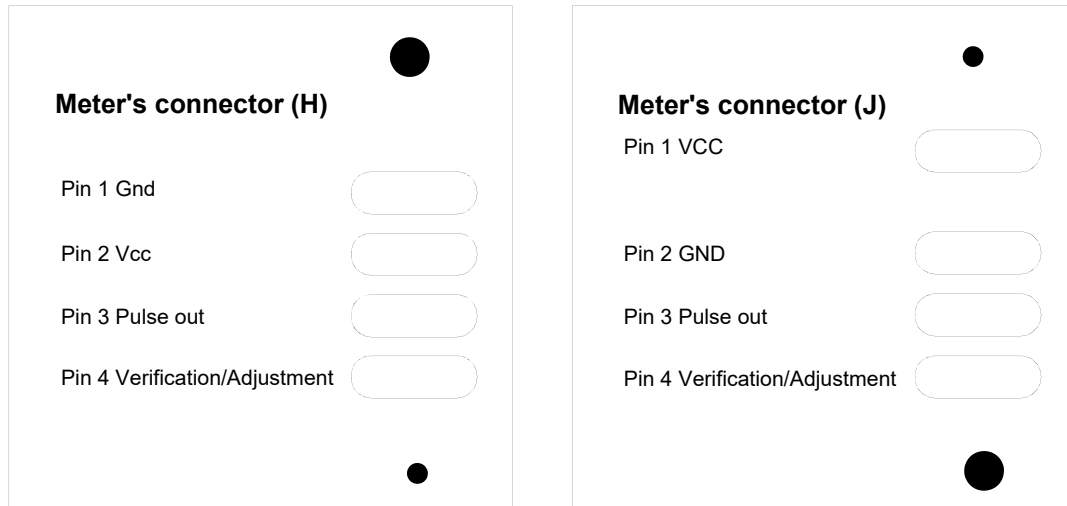

Figure 44. Interface connectors, ULTRAFLOW® 54 (H)/(J).
Due to different physical print layouts the interface connectors of the flow sensors  $q_p$  0.6...2.5 m3/h (Type (H)) are slightly different from the ones of the flow sensors  $q_p \geq 3.5$  m3/h (Type (J)). The interface connectors are constructed as shown in Figure 44. Note, that the general function of the connectors is identical, but the positioning of single functions is different.
In order to bring ULTRAFLOW® into test mode, pin 4 of the internal connector is connected to frame (*Figure 44*) followed by connecting the meter to supply. After approx. 1 sec. the sensor goes into test mode and the connection between pin 4 and frame is disconnected again.